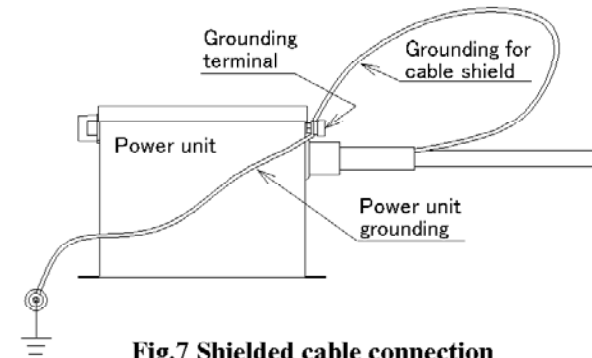

Fig.7 Shielded cable connection
- In case of a shielded cable, the shield must be connected to the ground terminal of a Power unit and then connected to ground as shown below in Fig.7. If grounding is not properly done, there is a risk of electrical shock/fire hazard.